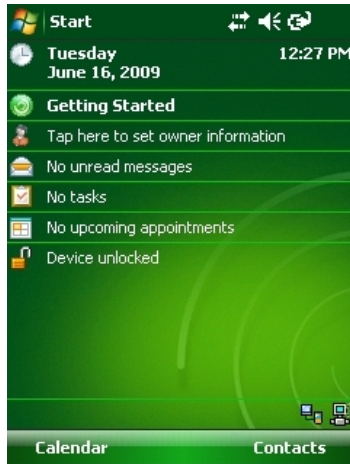

Figure 7. Encompass 1i Handheld Reader Start Screen
2. Make sure you have your Bluetooth radio enabled on your mobile computer, see the *Mobile Computer for Windows Mobile 6.1 (CN3, CN3e) User's Manual* for more information. The Start screen displays (Figure 7).